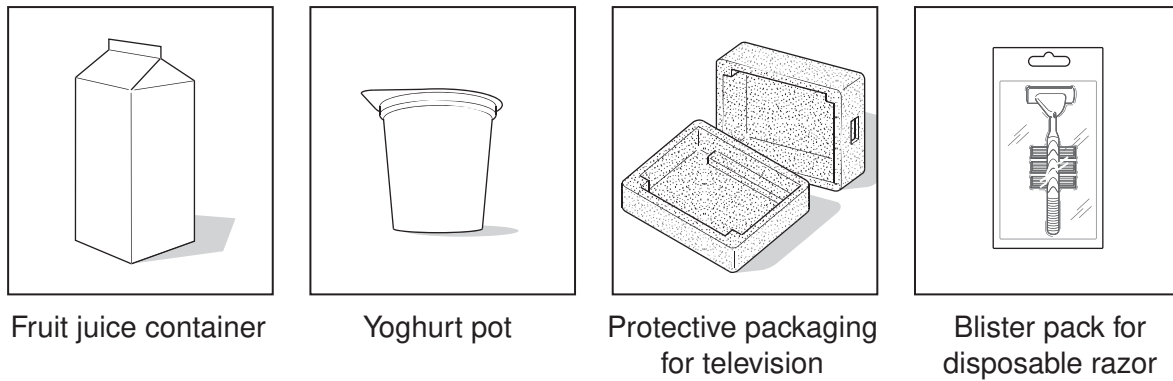

Fig. 5
7 Fig. 5 shows four examples of product packaging.
- (a) (i) State a specific material suitable for the packaging for each of the examples given in Fig. 5. Give a different material for **each** example. [4]